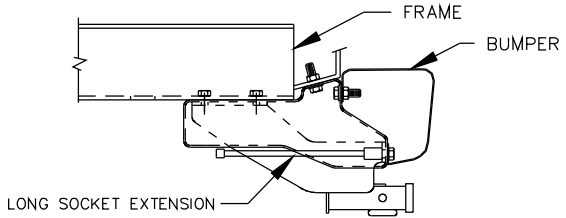

FIGURE 1
3. INSTALL FASTENERS AS SHOWN IN FIGURE 2. A SOCKET AND LONG EXTENSION IS NECESSARY TO TIGHTEN THE LOWER BUMPER BOLTS, SEE FIGURE 1.